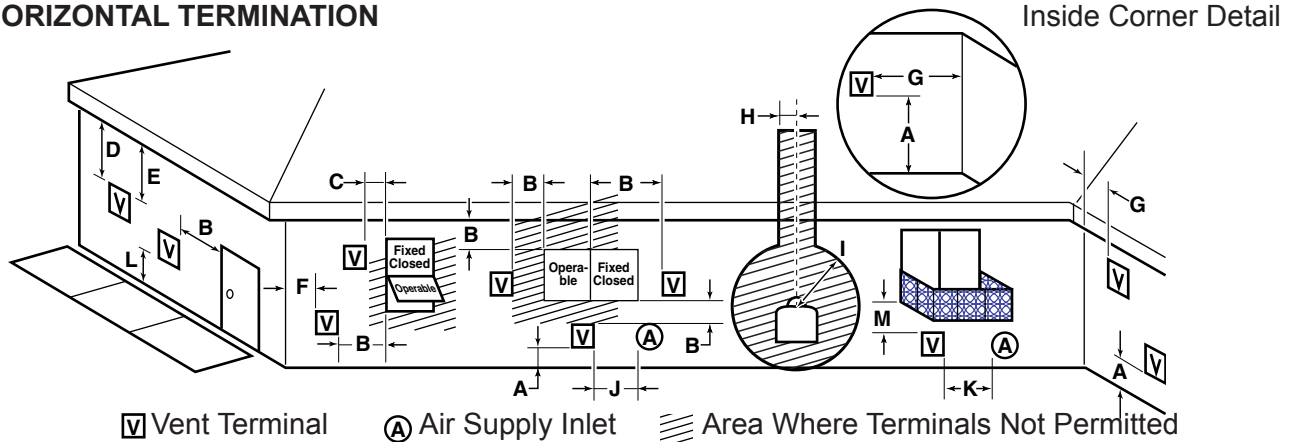
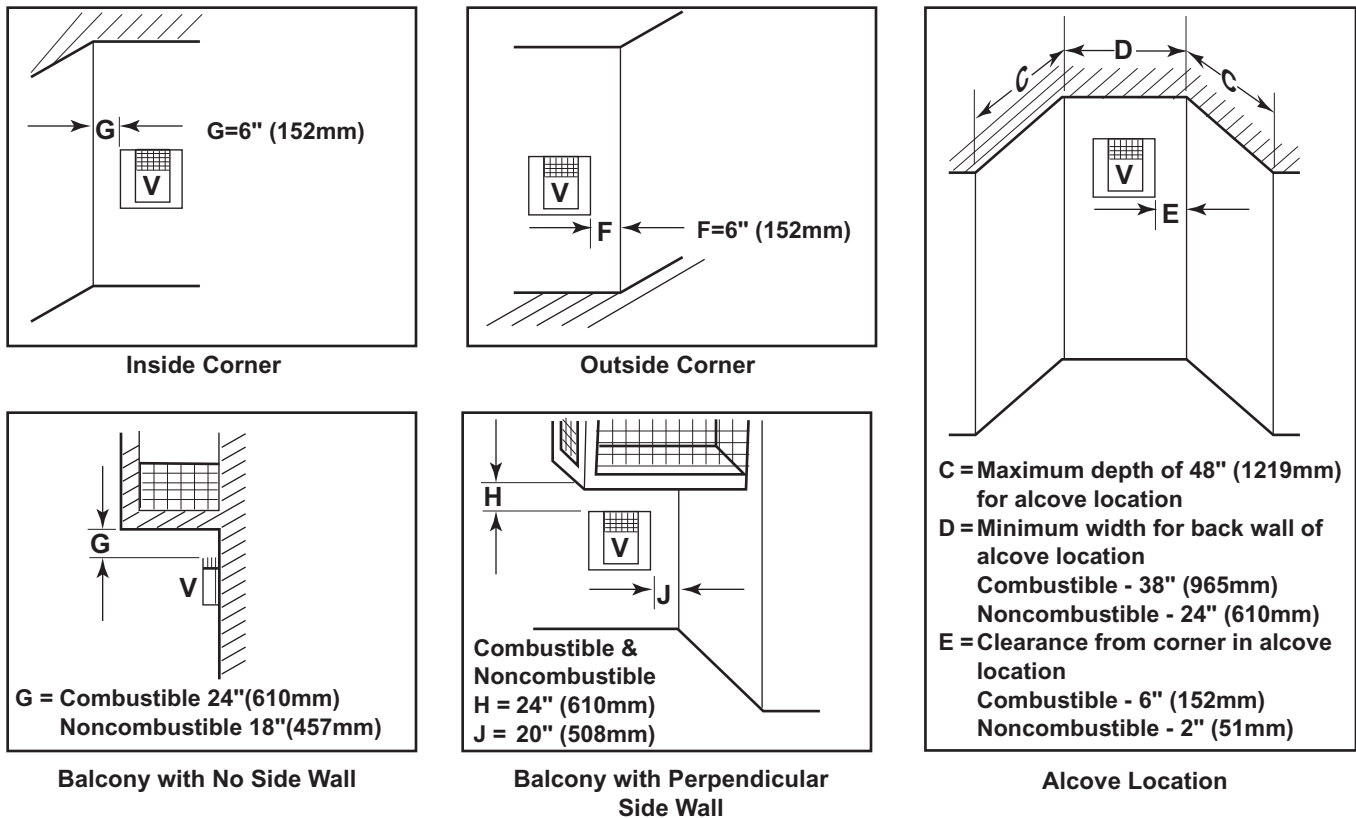

Figure 12 - Horizontal Vent Termination Location
Figure 13 - Allowable Venting Chart
- D = Vertical clearance to ventilated soffit located above the terminal within a horizontal distance of two (2) feet (610mm) from the centerline of the terminal [18" (457mm) minimum].
- F = Clearance to an outside corner. *See Figure 12.*
- G = Clearance to an inside corner. *See Figure 12.*
- H = *Not to be installed above a gas meter/regulator assembly within three (3) feet (914mm) horizontally from the centerline of the regulator.
- M = Clearance under veranda, porch, deck, or balcony. *See Figure 13, page 17.* [For Canada *12" (305mm) minimum***].
The Vent Graph, showing the relationship between vertical and horizontal side wall venting, will help to determine the various dimensions allowable. See Figure 13, page 17.